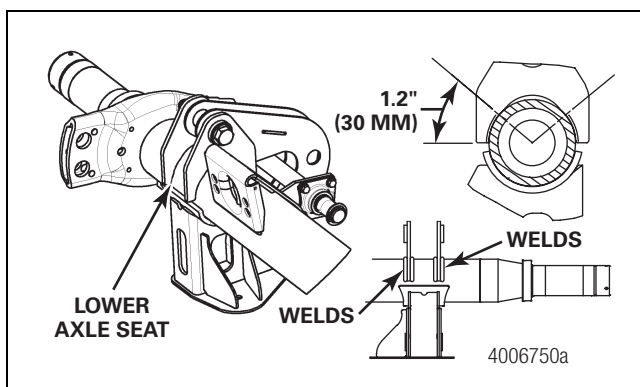

Figure 21
5. Weld 1.2-inches (30 mm) on each side of the lower axle seat onto the axle. The welds must be 0.25-inch (6.35 mm) wide and not more than 1.2-inches (30 mm) long. Do not weld over the end of the lower seats. There will be a total of eight welds (two lower axle seats welded on each side). Figure 21.